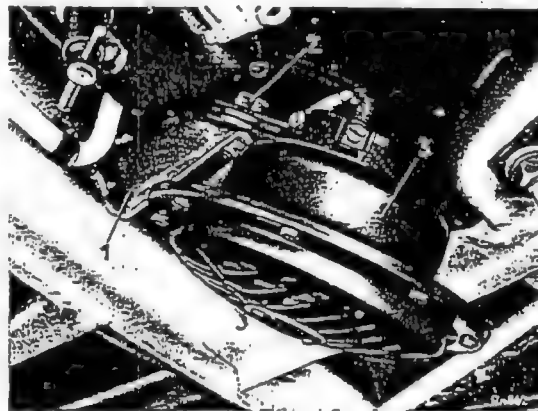

Fig. 54-15/1
1. Disconnect the two electric cables from the horn (3).
2. Unscrew the hexagon screw (2) (Fig. 54-15/1) and remove the horn (3) together with the flexible suspension from the bearing bracket (1).